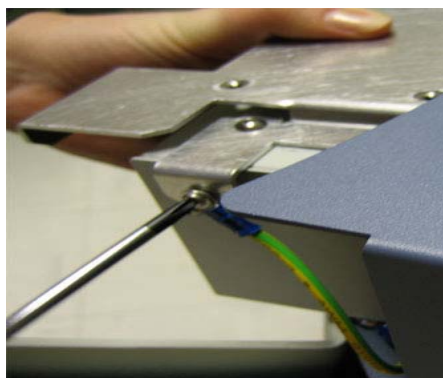

Figure 8-84 Disconnect the Ground Cable
- 2.) Reconnect the Ground Cable, as shown in Figure 8-84 on page 8-105.